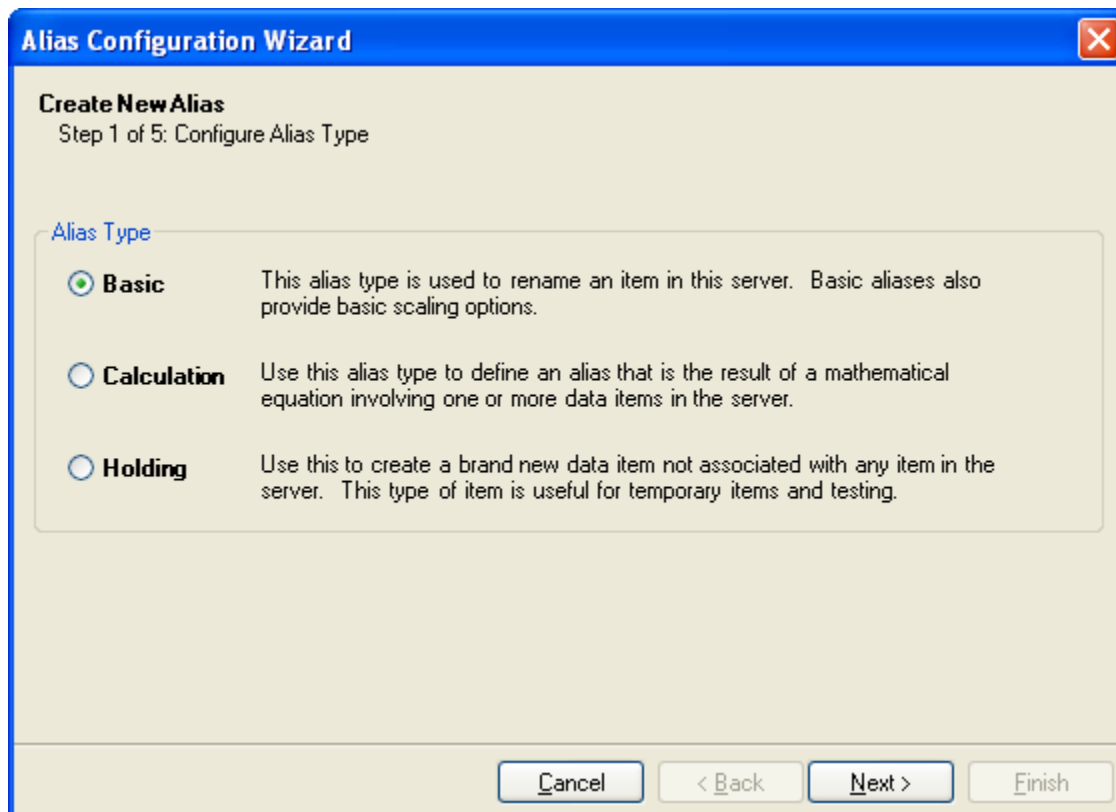

Figure 16 - Alias Configuration Wizard - Step 1: Alias Type
- The **Alias Configuration Wizard** (Figure 16) appears. The wizard provides the necessary guidance to create your own Alias.
Figure 17 shows the **Alias Identity** configuration step when the **Basic** Alias configuration option has been selected in **Step 1** of the **Alias Configuration Wizard** (Figure 16).